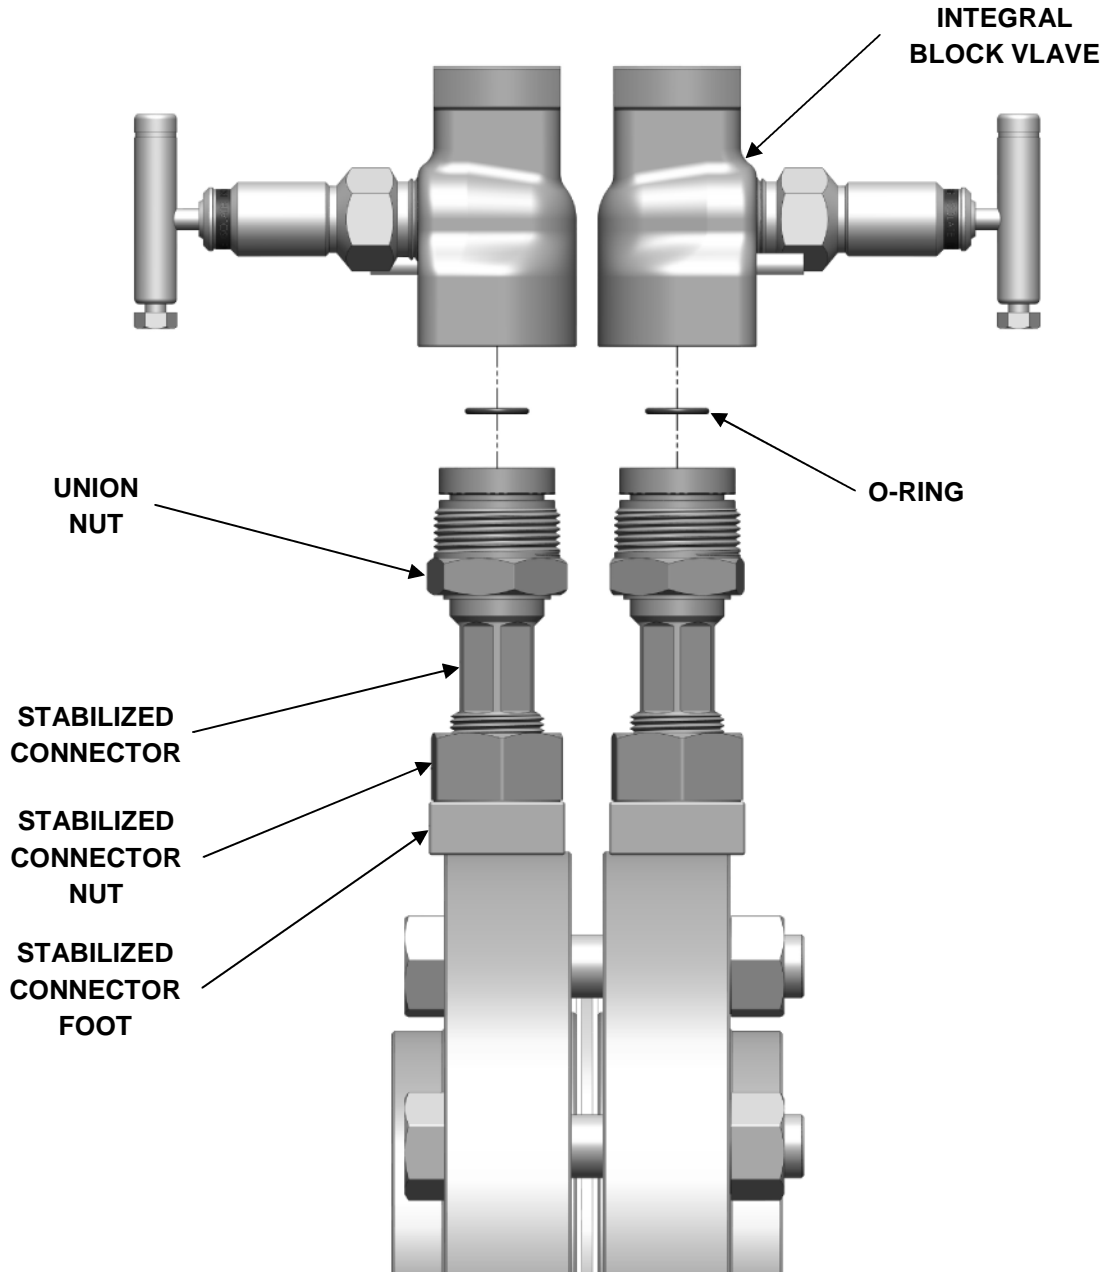

Figure 2
2.1.5 Insert the O-rings into the grooves on the stabilized connector according to Figure 2.